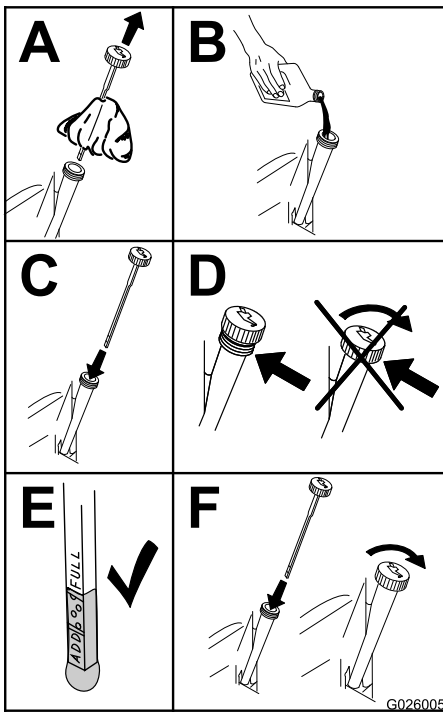

Figure 38
4. Slowly pour approximately 80% of the specified oil into the filler tube, and slowly add the additional oil to bring it to the **Full** mark (Figure 38).